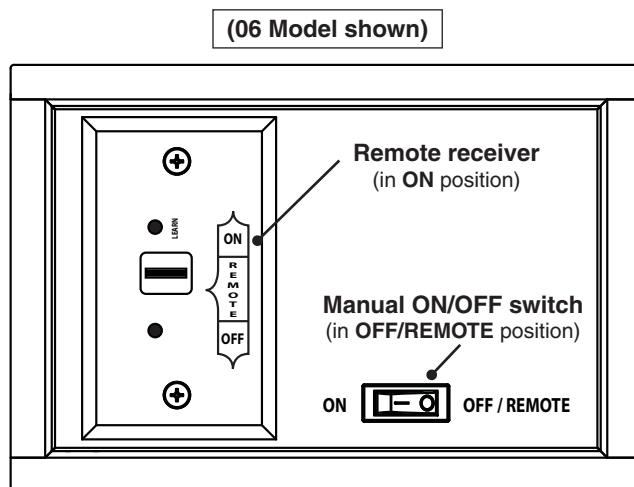

Fig. 37-1 Control panel detail
1. Ensure the manual ON/OFF switch is in the **OFF/REMOTE** position (see Fig. 37-1).
2. Locate the 3-position switch on the remote receiver (see Fig. 37-1), and slide the switch to the **ON** position.
The manual ON/OFF switch should remain in the **OFF/REMOTE** position to allow for remote system operation (see Fig. 37-1).